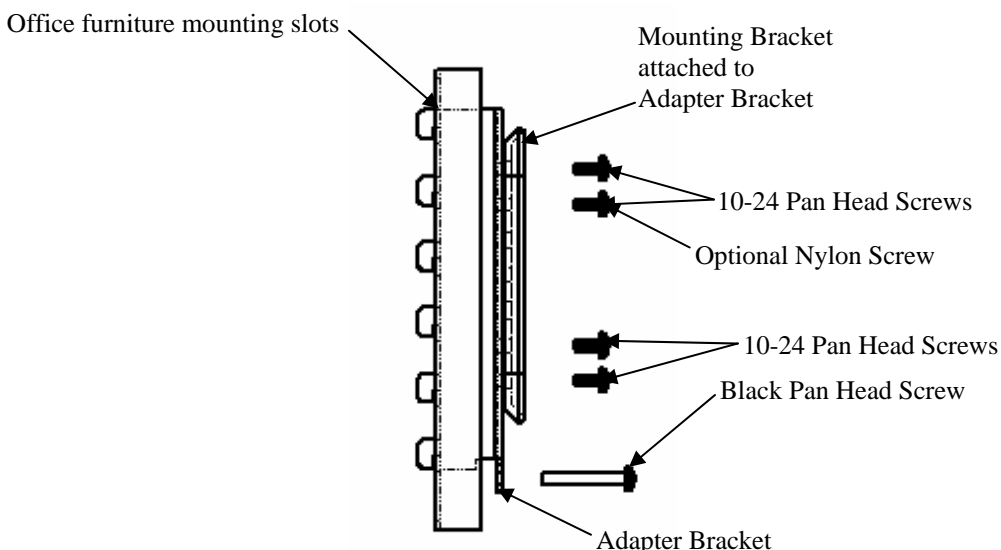

Figure 2
1. Secure the adapter bracket; with the tabs facing down, to the mounting bracket (supplied with your mounting assembly) by loosely installing four 10-24 pan head screws (see Figure 2).